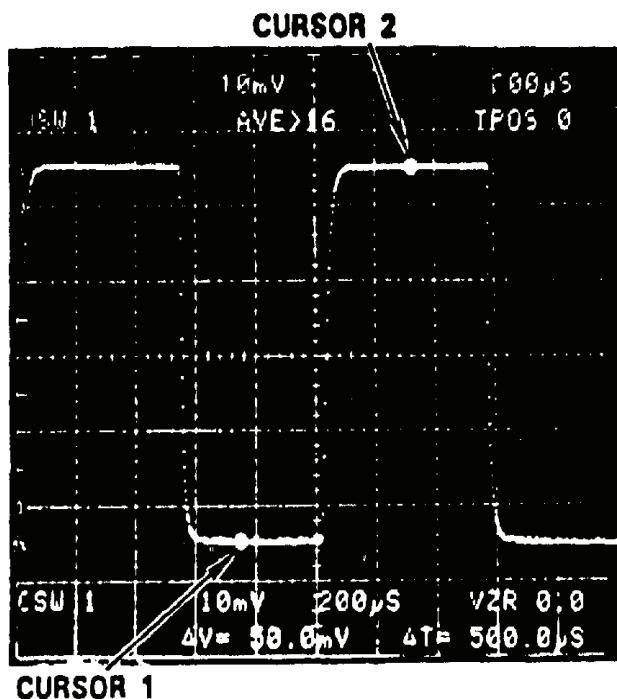

Figure 6. CURSORS 1 and 2 used to measure p-p voltage.
- (1) Press MENU/TEST, MEMORY DISPLAY 4, 5, 6 and MENU/TEST pushbuttons.
- (2) Press TRIGGERING/COUPLING HF REJ pushbutton.
- (3) Set VOLTS/DIV switch to **10 mV** and TIME/DIV to **200 μ s**.
- (4) Connect oscilloscope calibrator SOURCE/MEASURE CHAN 1 output to **CH 1**.
- (5) Press oscilloscope calibrator VOLTAGE key and set for a frequency of 1 kHz and amplitude for 50 mV.
- (6) Press **f** (function) and **CURSORS Δ ON** pushbutton and position **CURSORS 1** and **2** as shown in figure 6.
- (7) Adjust **CH 1 AQR GAIN** for **CURSOR** readout of $\Delta V=50$ mV.
- (8) Adjust oscilloscope calibrator knob located below the **EDIT FIELD** key for 5 divisions displayed on TI crt. Displayed **err** on oscilloscope calibrator will indicate \pm 2 percent and TI ΔV readout will indicate between 49.0 and 51.0 mV.
- (9) Adjust TI settings and oscilloscope calibrator VOLTAGE output settings as listed in table 3. At each setting, verify TI ΔV readout is within limits specified and vertical deflection is as specified \pm 2 percent.